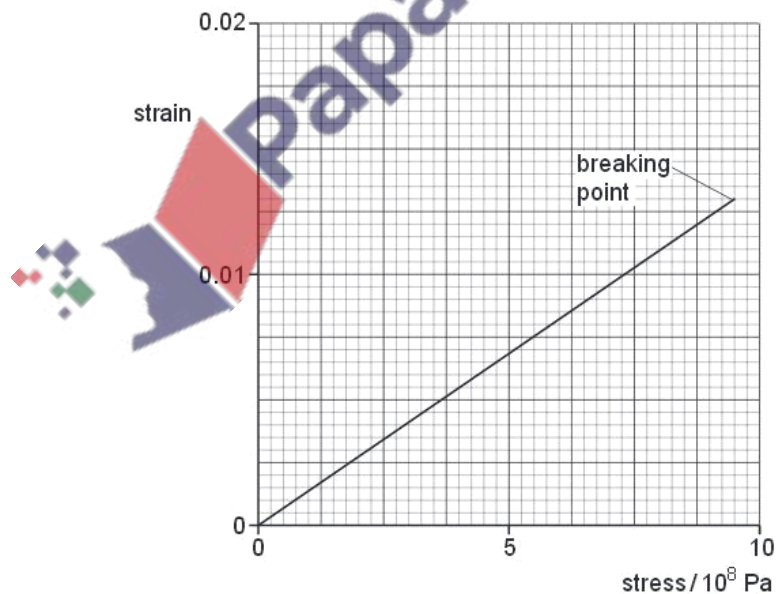

Fig. 4.1
- 4 A sample of material in the form of a cylindrical rod has length L and uniform area of cross-section A . The rod undergoes an increasing tensile stress until it breaks. Fig. 4.1 shows the variation with stress of the strain in the rod.